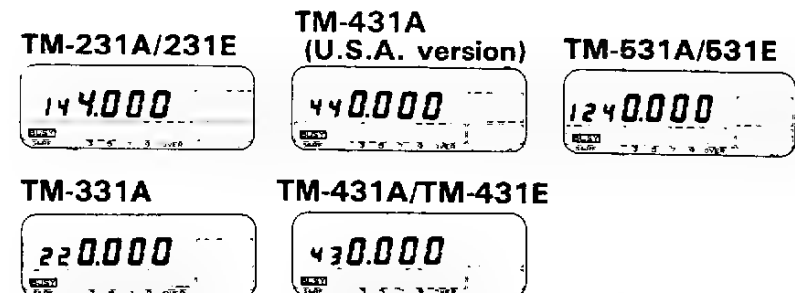

Fig. 1
2. Turn on the Power Supply and then turn on the transceivers POWER switch. The display should indicate a frequency. Fig. 1 shows examples of frequencies that will appear on the various models. In addition to the frequency you may see one or more control indicator turn on in the display.